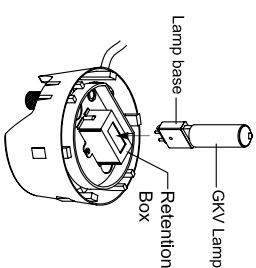

Figure 1
4. Line up the lamp base with the hole of the retention box as shown in **Figure 1**.